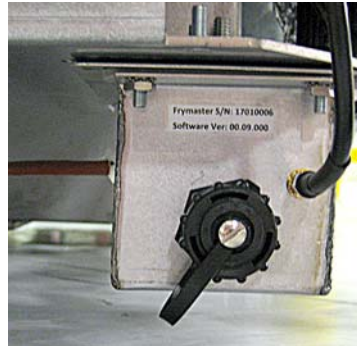

Figure 4
7. Locate the Datalink box under the rear right side of the fryer (see Figure 4).